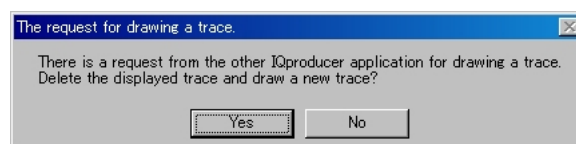

Figure 3.6-2 Confirmation Message
2. Select **CCDF** from the **Simulation** menu or click the  tool button. The confirmation message shown in Figure 3.6-2 below appears: